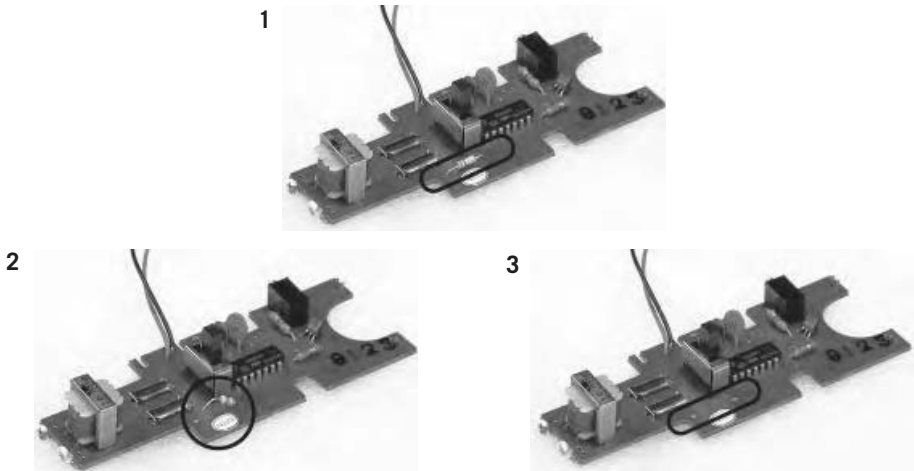

Figure 13.1 Removing a resistor.
1. Locate the clock resistor you identified in the previous experiment. Wedge a small flat-bladed screwdriver under the resistor. Melt the solder on the underside of the circuit board at one end of the resistor, and lever the screwdriver to lift that end free from the solder connection (see figure 13.1). Now grip the resistor with a pair of pliers and pull it free of the board as you melt the other solder joint. Put it somewhere safe and don't lose it! If the circuit already has a pitch-control potentiometer ("pot"), de-solder and remove it entirely.